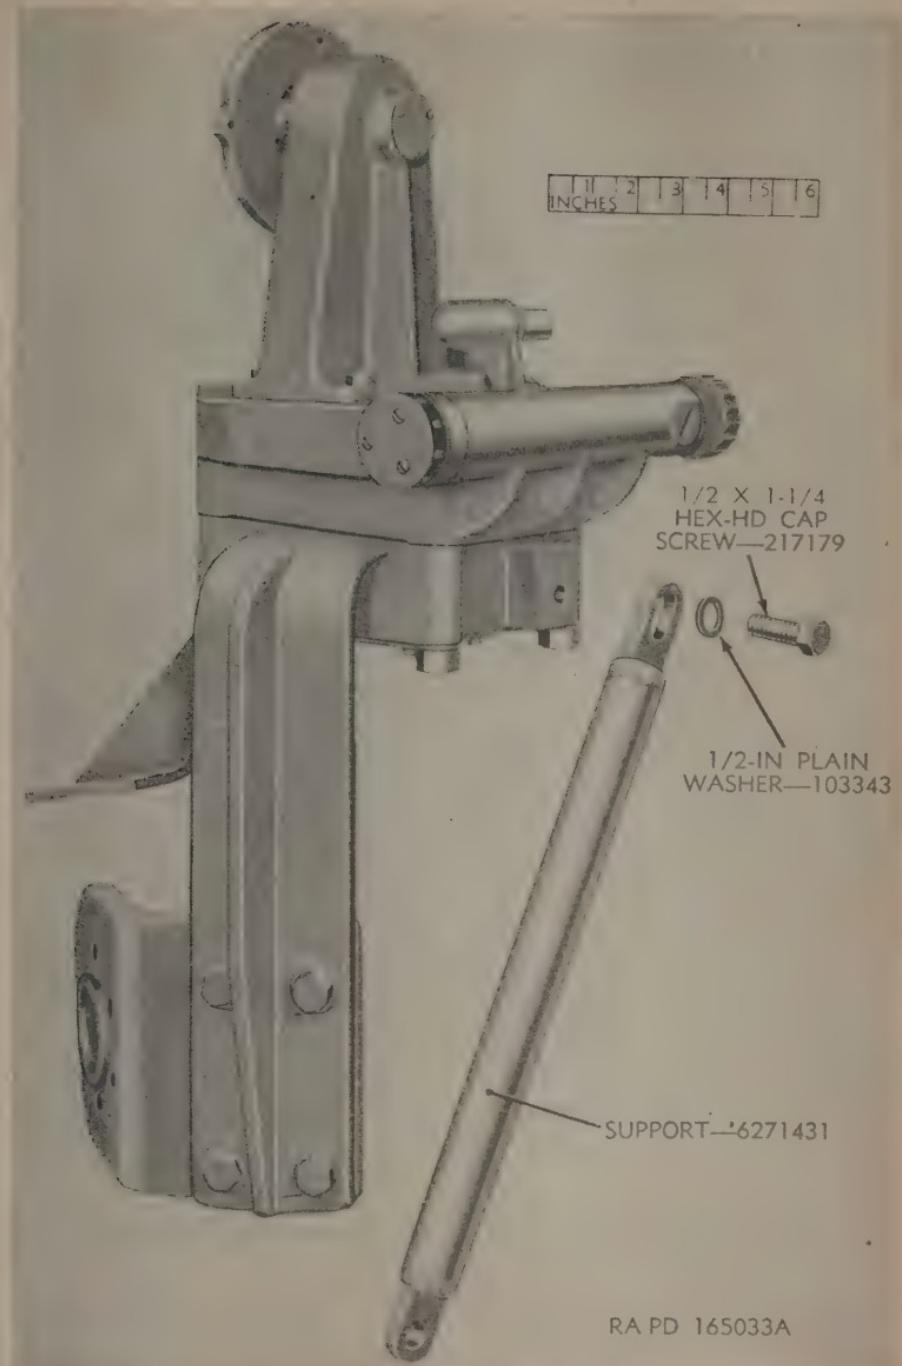

Figure 59. Telescope mount M52D—removal of the support.
d. Support (Telescope Mount M52D Only) (fig. 59). Remove the hex-head cap screw that secures the support to the upper mounting bracket. Separate the support from the mounting bracket. Slide the plain washer from the cap screw.